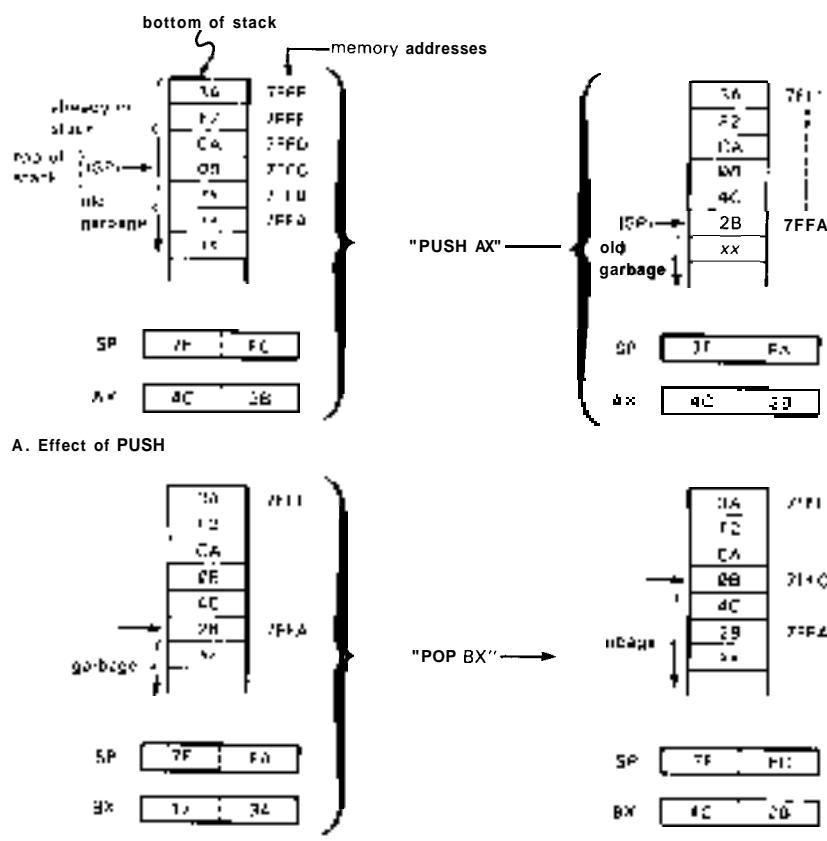

Figure 10.4. Stack operation.
Figure 10.4 shows how it works. The stack lives in ordinary RAM, with the CPU's stack pointer (SP) keeping track of the location of the current "top" of the stack. The 8086 stack holds 16-bit words and grows down in memory as you push data onto it. The SP is automatically decremented by 2 before each `PUSH`, and *incremented* by 2 after each `POP`. Thus, in